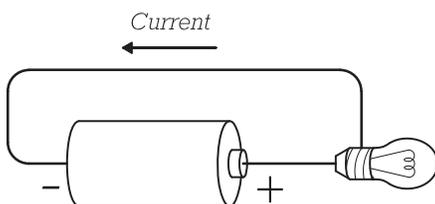

FIGURE 16.1
A flashlight is an example of the simplest electrical system and can be represented by a battery connected with wires to a light (Figure 16.1). Electrical current flows in one direction through the wires from the battery through the light and back to the battery. When either piece of wire is disconnected, the circuit is broken, the electricity ceases to flow, and the light stops glowing. The electricity now exists only as potential (voltage) within the battery. The *power* (P) produced at the electrical device (the light bulb in this example) when the current is flowing is the product of the current and the voltage, $P = VI$. This type of system, with a current that flows constantly and in one direction, is called *direct current* (DC).